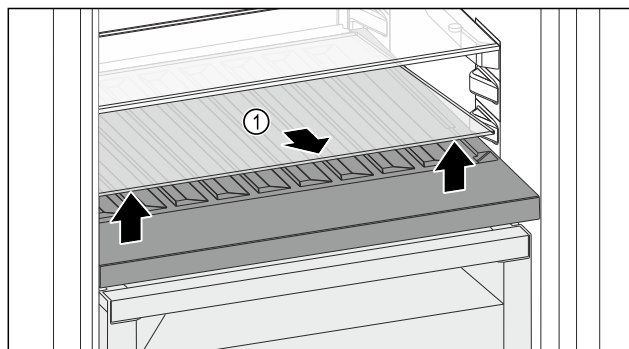

Fig. 114
- Lift the glass shelf Fig. 114 (1) at the front and remove.
- Store the glass shelf Fig. 114 (1) in a safe place outside the appliance.